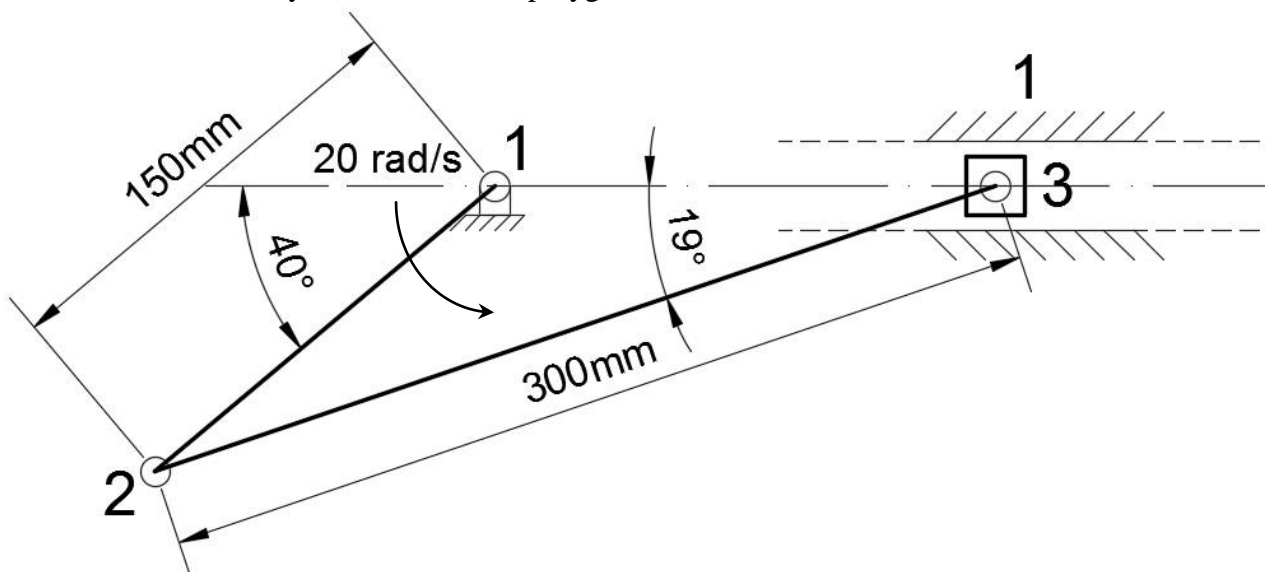

Figure 3
3. Find the absolute acceleration of the slider, for the mechanism shown in figure 3, using the construction of velocity and acceleration polygons.